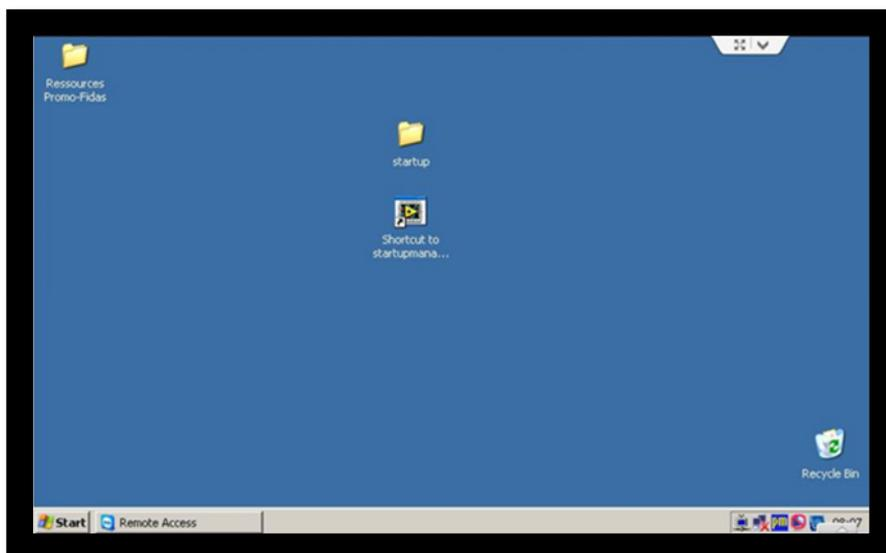

Figure 20: Windows desktop
- On the Windows Desktop you will see an icon and a folder. You can use the “Shortcut to startupmanager” icon to reboot the APDA-372 user interface. Please click the “startup” folder (see Figure 20)